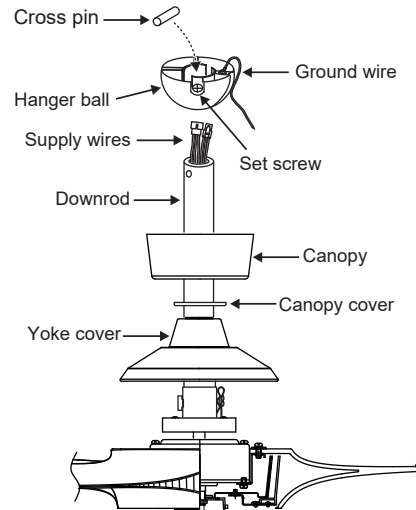

Fig. 10
Step 9. Slip the yoke cover, canopy cover and canopy onto the downrod. (Fig. 10)